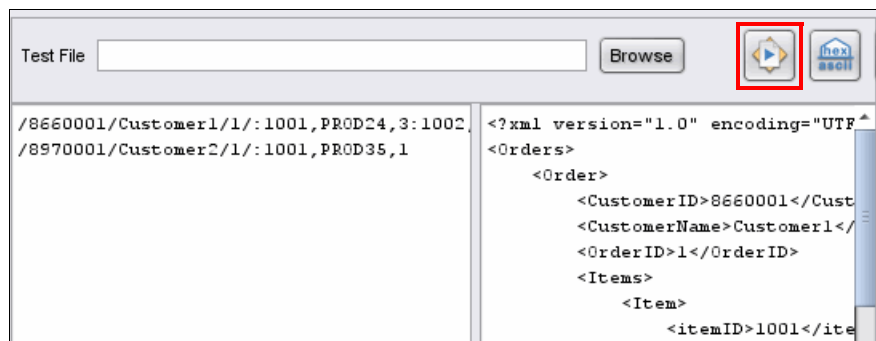

Figure 12-26 Test panel showing the result on the right side
14. Test the Orders flat file schema. In the Orders entity tab, enter the sample data shown in Example 12-2 into the test panel, and click the Test icon. Refer to Figure 12-26.